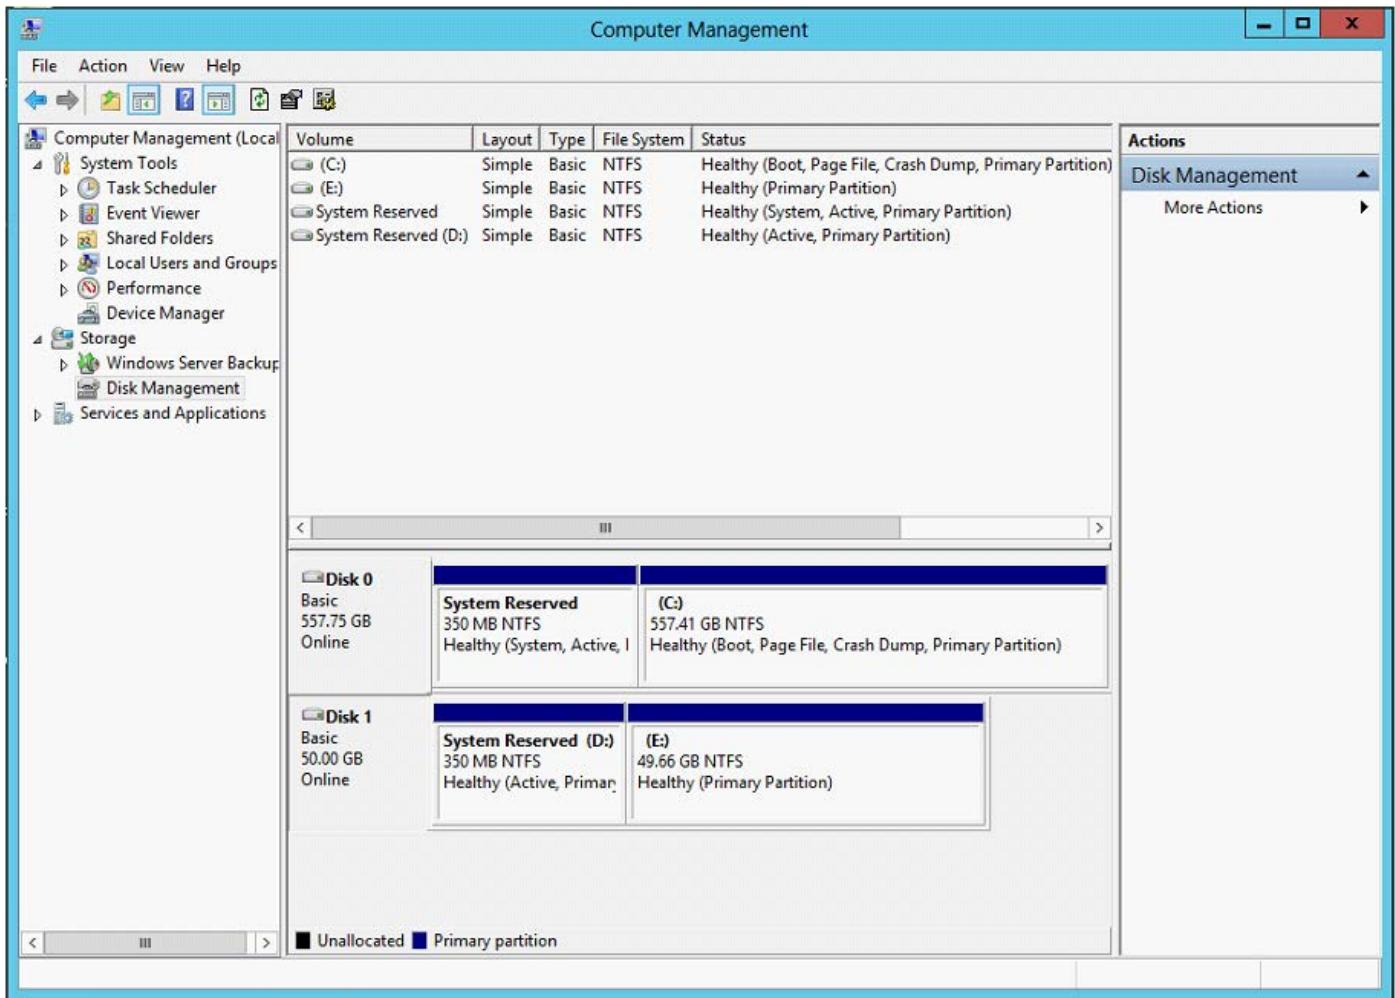

Figure 55 Disk Management
4. Once the Computer Management applet has launched, click on Disk Management and the new remote LUN should be seen as a Basic Disk as can be seen in Figure 55.